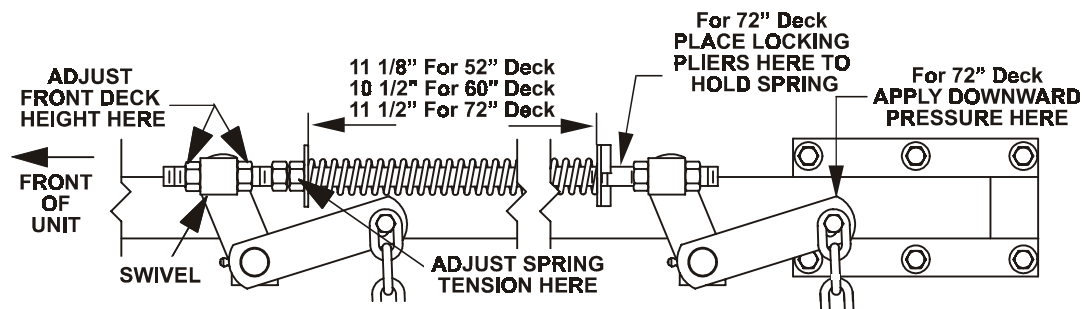

FIG. 8
- c) Check tire pressure of all four (4) tires. If needed, adjust to 13 psi (90 kPa).
- e) Raise the deck to the 5" height position (also transport position) and take all off of the two large deck lift springs by loosening the nuts at the front of each spring. See Fig. 8.
For 72" units – Lower the deck to the 1-1/2" height position. Force the left rear deck support arm downward about 1/4" to get the deck to rest at the 1-1/2" height position. Place a locking pliers between the rear swivel and spring stop to hold the deck in this position. See Fig. 8.
See Fig 6. Adjust spring compression until proper distance is obtained between the two large washers (See Fig 8). Adjustment is made by turning the nut at the front of each spring (clockwise will shorten the spring, counter-clockwise will lengthen the spring). Lock in position with jam nuts.